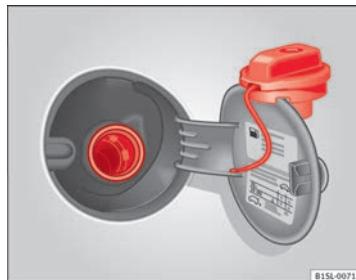

Fig. 107 Open fuel tank flap with tank plug attached to the holder
- Take out the fuel tank plug by turning it in an anticlockwise direction and rest it on the upper part of the fuel tank flap ⇒ Fig. 107.